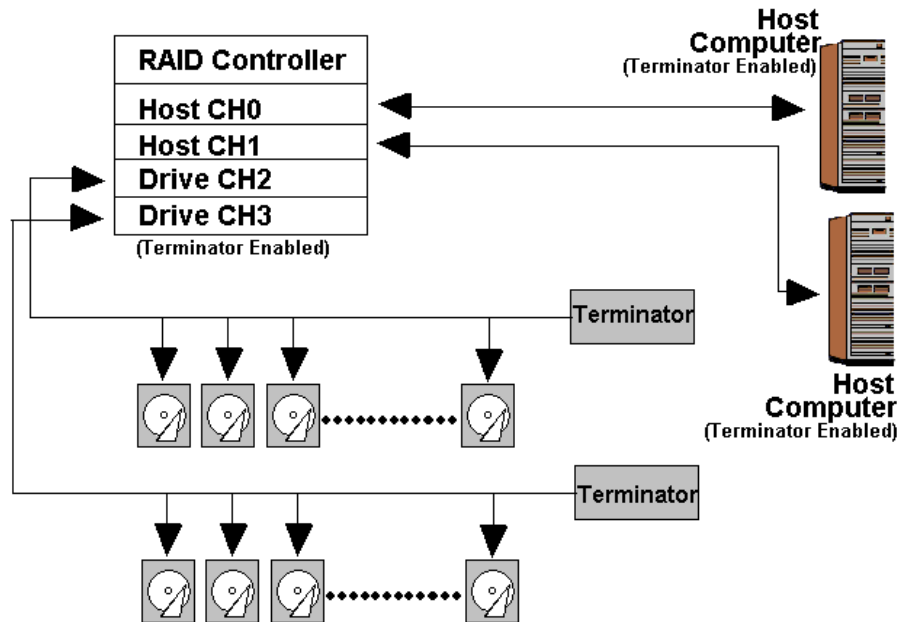

Figure 4-2: Dual Host Connection
In *Figure 4-2* two channels (CH0 and CH1) are configured as host channels and two channels (CH2 and CH3) are configured as drive channels. The firmware (FW) can be used to create LDs. These LDs must in turn be mapped to the host channels.
- ◆ **Creating redundant host paths:** If access to data is a critical requirement, redundant data paths to different LDs or logical volumes (LVs) can be created. To do this, logical units (LDs or LVs) are mapped to both the host channels (CH0 and CH1 in *Figure 4-2*). This will ensure that if one host computer fails, the second host computer will be able to access the logical units on that host computer.